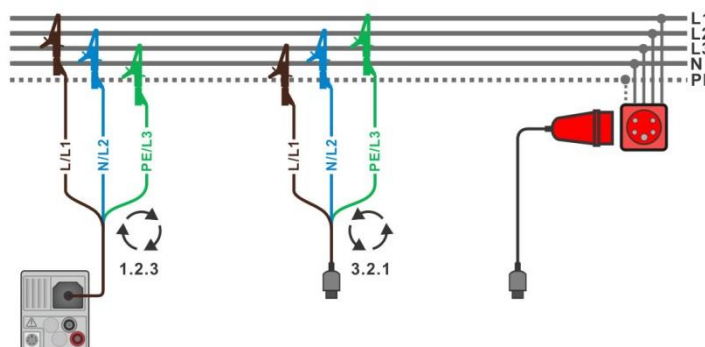
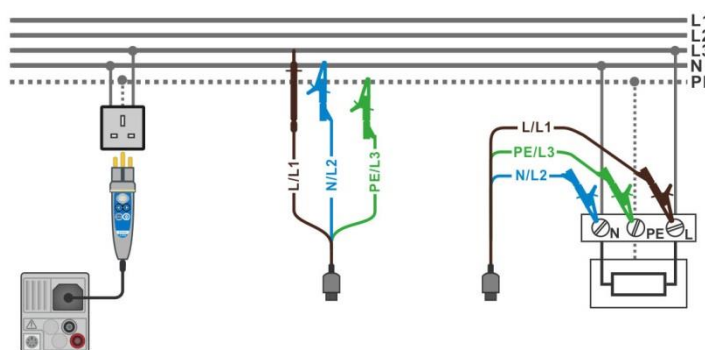

Figure 7.2: Connection of 3-wire test lead and optional adapter in three-phase system
Figure 7.3: Connection of Plug commander and 3-wire test lead in single-phase system
- › Connect test leads to object under test (see **Figure 7.2** and **Figure 7.3**).